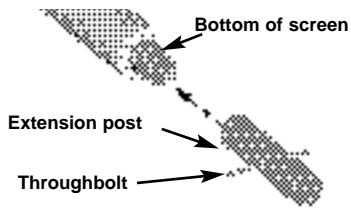

Figure 11. Optional extension post
1. If used, install the optional extension post to the bottom of the screen tubing. Set the height so that the bottom of the screen will be in the correct position once the screen is hoisted into place. Use the throughbolt to set the position. Refer to Figure 11.